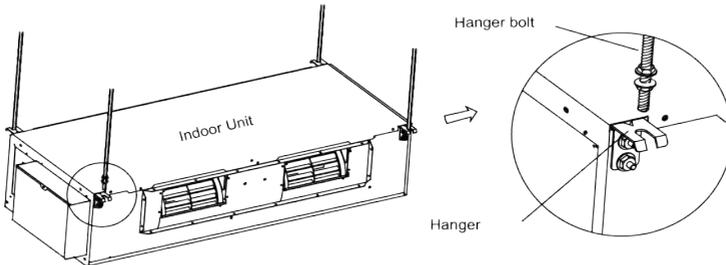

Fig.4.5
- (3). Install the hanger to the unit (Fig. 4.5).